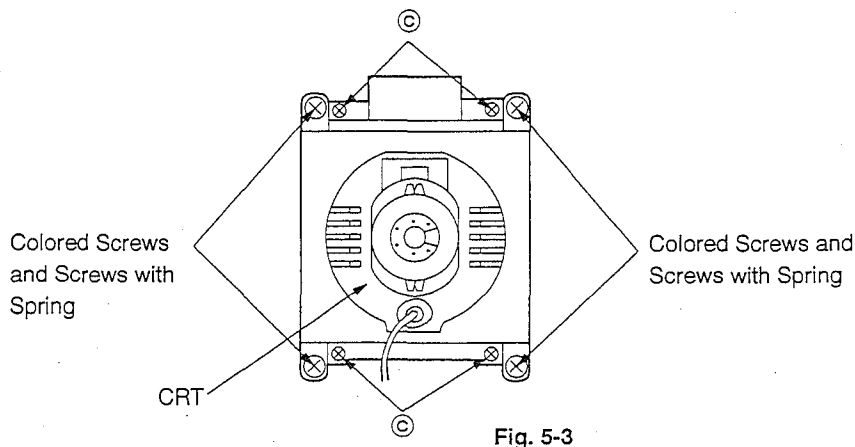

Fig. 5-3
6. Remove 4 screws (c) retaining the CRT while supporting the CRT. (Fig. 5-3)
2. Install the CRT on the Optical Unit. (Fig. 5-3)